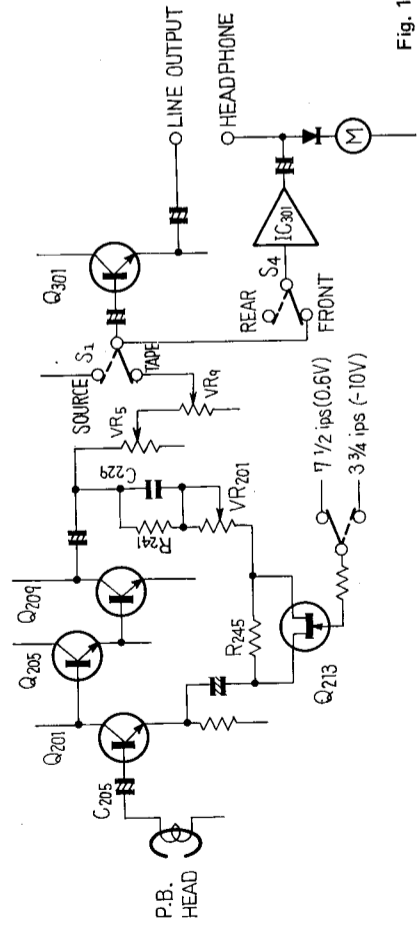

Fig. 1
The RT-1020L tape deck contains both 4-channel playback and 2-channel recording and playback. It employs four playback circuits, two recording circuits and one oscillator circuit. The left-channel front unit major circuitry is shown in Fig. 1.
3.1 PLAYBACK CIRCUIT (Fig. 1)